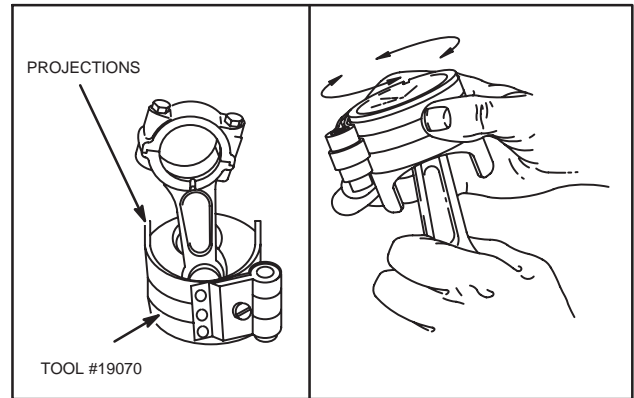

Fig. 2 – Compressing Rings
1. Oil piston rings, piston skirt, and compress rings with Ring Compressor Tool #19070, Fig. 2.
- c. Then loosen ring compressor very slightly so that compressor can be rotated on piston skirt while holding connecting rod, Fig. 2.